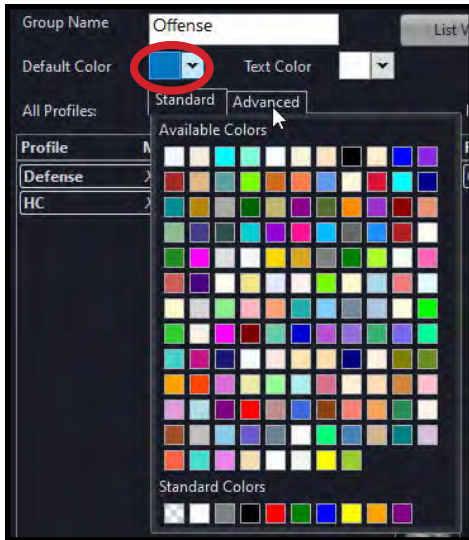

Figure 109: Editing Group Colors
- Open the drop-down color pickers in the Color and Text Color fields, and choose a color to represent the group (see Figure 109). This color choice appears on the RP Icons (X-Ware’s Home screen) for profiles with the group assignment.